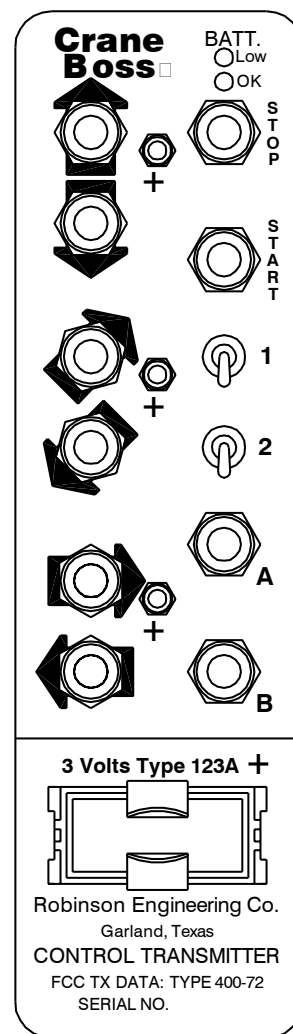

FIG. 4-2(G): OUTPUT CIRCUIT FUNCTIONAL DIAGRAMS
4.4.2 The output of Crane Boss 200 digital radio remote control is by heavy-duty relay contacts. One normally open circuit is available for each function direction and each speed output. See Fig. 4-2 and Output Circuits Drawing for logic of internally, pre-wired circuits.